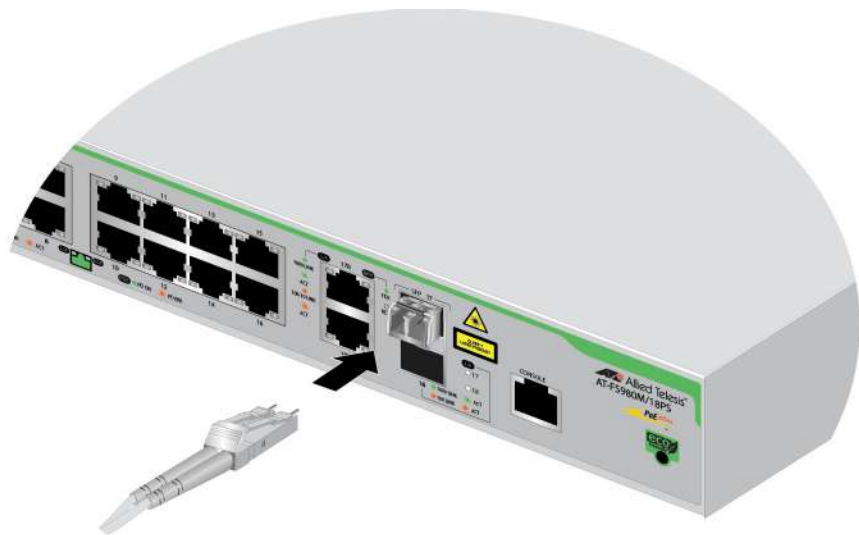

Figure 33. Connecting the Fiber Optic Cable to the SFP Module
5. Connect the fiber optic cable to the SFP module, as shown in Figure 33 on page 62.